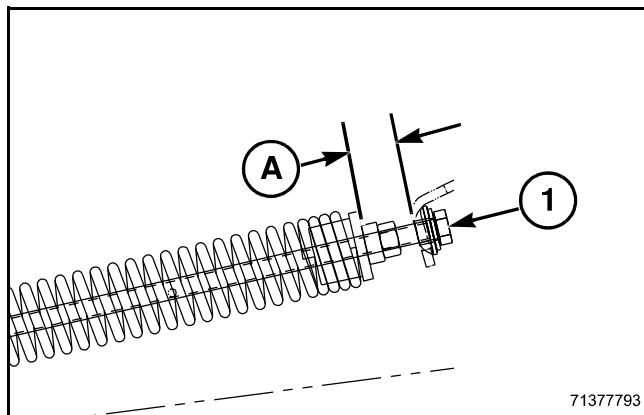

FIG. 27
FIG. 27: Adjust the idler draw bolt (1) to provide 24.0 mm (0.95 in) clearance (A) between the end of the spring plug and the inside of the spring anchor bracket. Lock the jam nut against the spring plug.